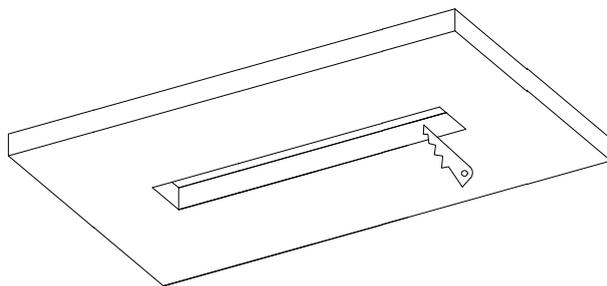

Figure 1
1. Select the corresponding ceiling opening size according to the specifications and models of the lighting fixtures, and pre open the installation holes for the lighting fixtures on the ceiling, as shown in Figure 1.